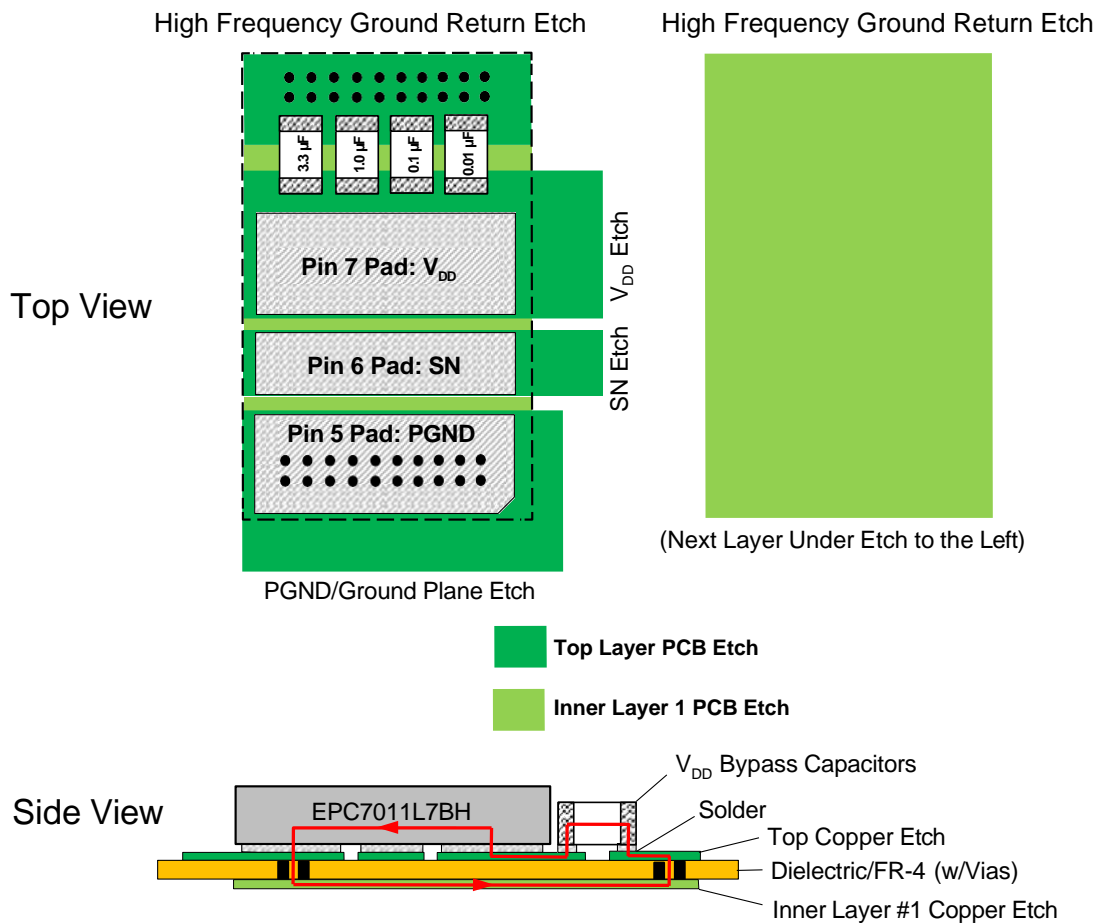

Figure 4. Recommended Optimum V_{DD} -to-PGND Power Supply Bypass Capacitor Layout (Not to Scale)
Because of the extremely high slew-rate of voltage seen at the SN output it is recommended that a minimum of one (1) 3.3 μF microfarad ceramic capacitor, one (1) 1.0 microfarad ceramic capacitor, one (1) 0.1 microfarad ceramic capacitor and one (1) 0.01 microfarad ceramic capacitor, all with sufficient voltage de-rating, be connected from V_{DD} to PGND. All four of these capacitors should be low ESR types, if possible. It is strongly recommended that these capacitors have the smallest possible case sizes possible such that they inscribe the smallest possible loop area between V_{DD} and PGND so as to minimize the inductance related to this loop area. Also, to reduce the inductive loop between V_{DD} and PGND is strongly recommended that an induction loop cancellation layout of the high frequency power supply capacitors be employed. Figure 4 illustrates the recommended optimum layout and placement for the V_{DD} -PGND high-frequency bypass capacitors.
It should be noted that in Figure 4 that the light green copper etch area on the PCB's inner layer #1 is positioned directly beneath the copper etch clad on the top layer, as indicated by the dashed line.